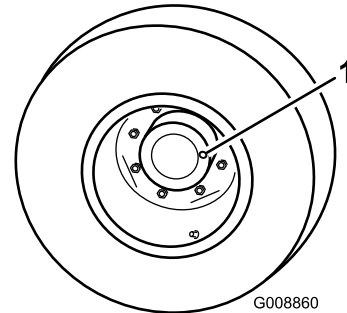

Figure 52
1. With the machine on level surface, position the wheel so that 1 check plug (Figure 52) is at the 12 o'clock position and the other is at the 3 o'clock position.
1. Check/drain plug (2)
2. Remove the plug at the 3 o'clock position (Figure 52).
2. Remove the check/fill plug from the left side of the gearbox (Figure 52) and make sure that lubricant is up to the bottom of the hole. If the level is low, add enough lubricant to bring the level up to the bottom of the hole.